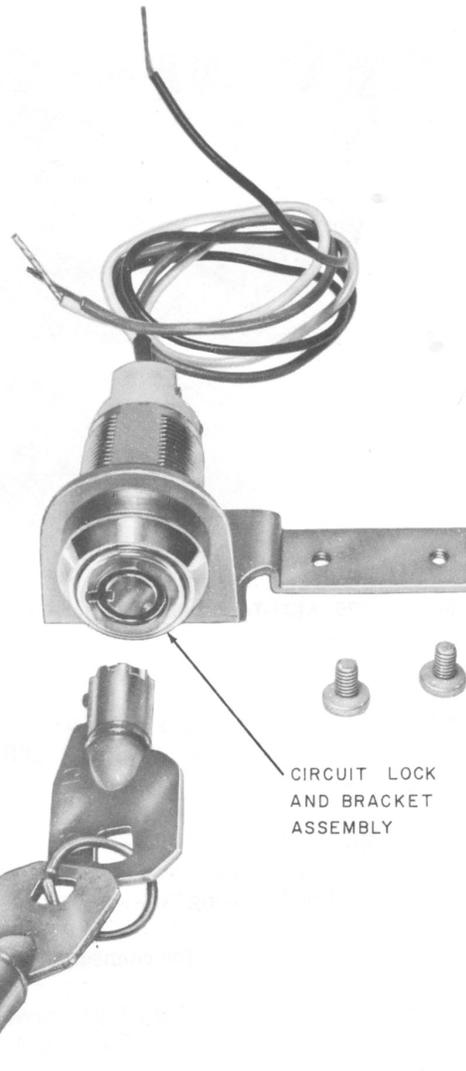

Fig. 11—D-180385 Kit of Parts
**3.14** Install the circuit lock (D-180385 Kit of Parts, Fig. 11) in the 526B telephone set as follows: